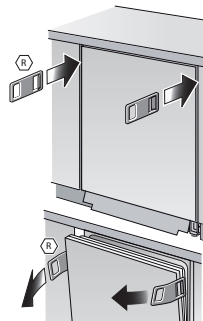

Figure 39
Center the dishwasher in the opening before securing it to your cabinet or countertop as shown in **Figure 39**. Use the supplied emergency release tools (R) to open the appliance as shown in **Figure 40**.